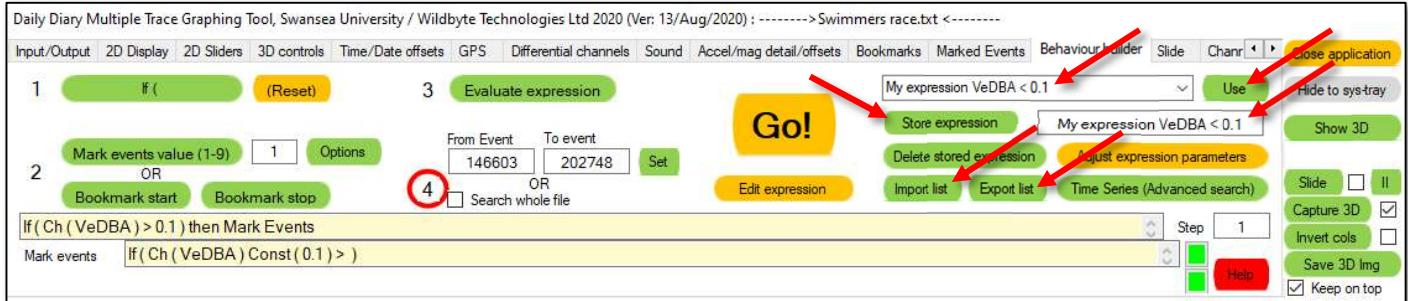

Figure 10.3 Storing this first expression
2. Now click the drop-down box indicated in Figure 10.3 and change it to VeDBA and click **Enter** to its right